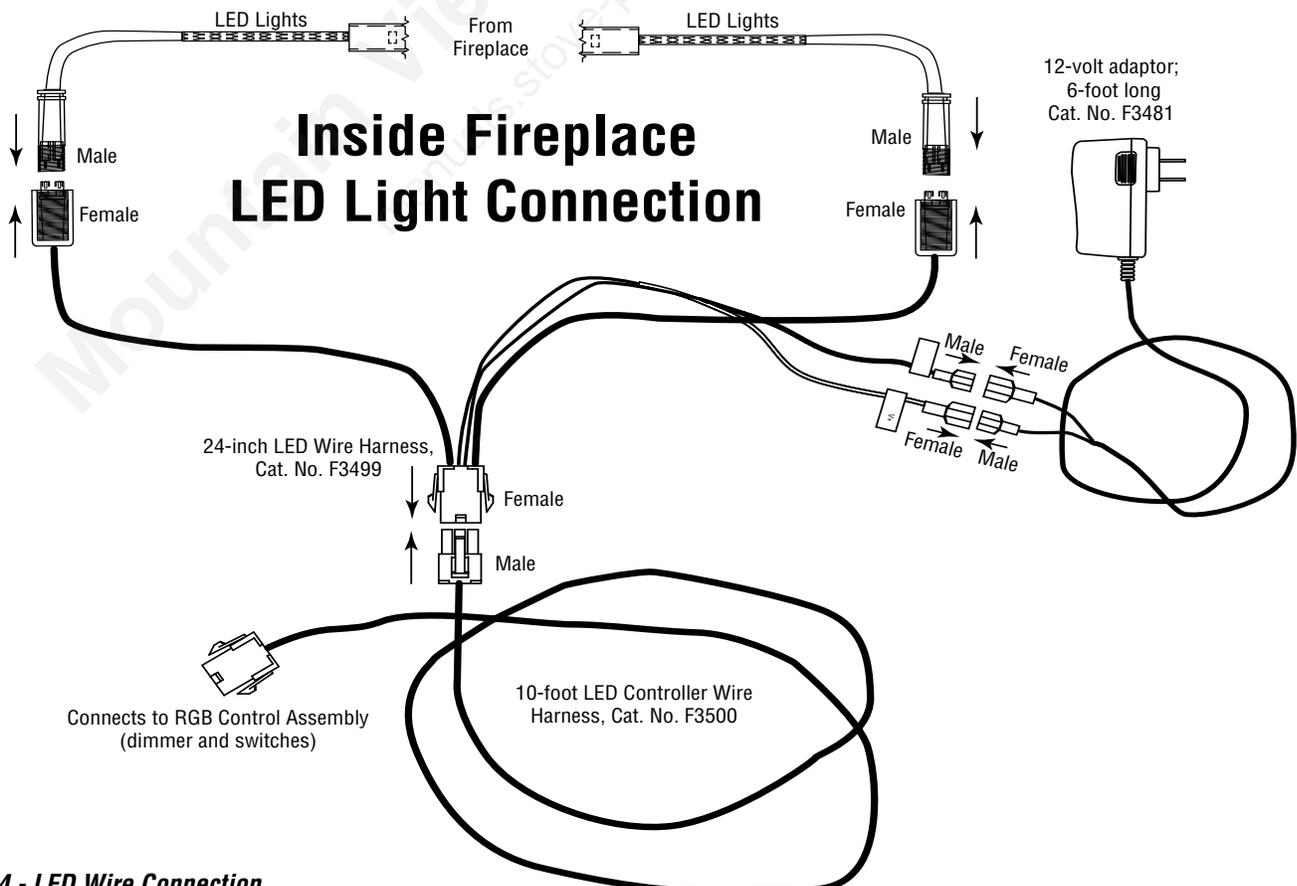

Figure 24 - LED Wire Connection
Step 8: With bottom end removed, wire part, Cat. No. F3499 (LED Wire Harness) female connectors to the LED male connectors protruding through the wire grommets. The male end of the LED connector will lock into the female connector in one direction only. Once locked in position, screw the threaded cap of the female connector securely to the male connector. **NOTE:** If you are only using one set of LED lights the other female connector of Cat. No. F3499 will not be used. See **Figure 24**.